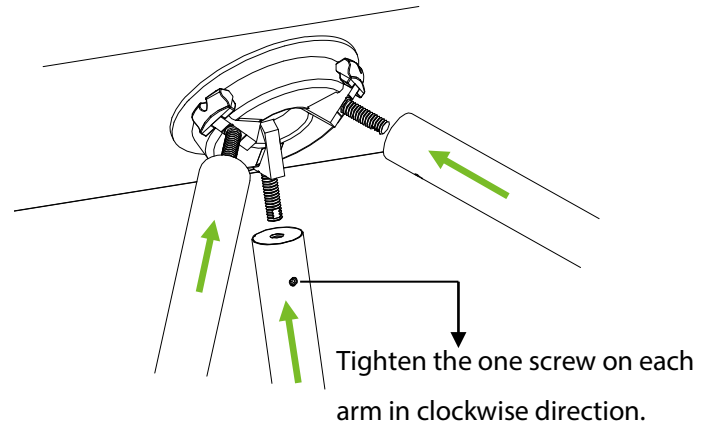

Figure 2-3
2. Rotating the arms to the connection points until it was fastening, and use the Hex key to fasten the one screw on each arm, as shown in Figure 2-3.